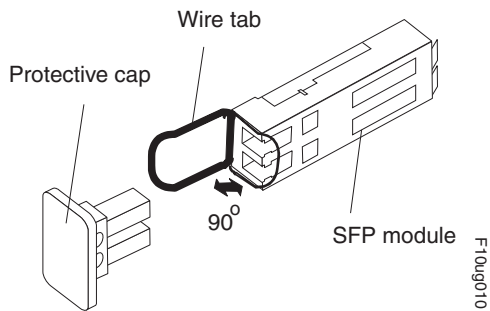

Figure 86. Unlocking the SFP module latch - wire variety
- For SFP modules that contain wire tabs, unlock the SFP module latch by pulling the wire latch outward 90°, as shown in Figure 86 on page 140.